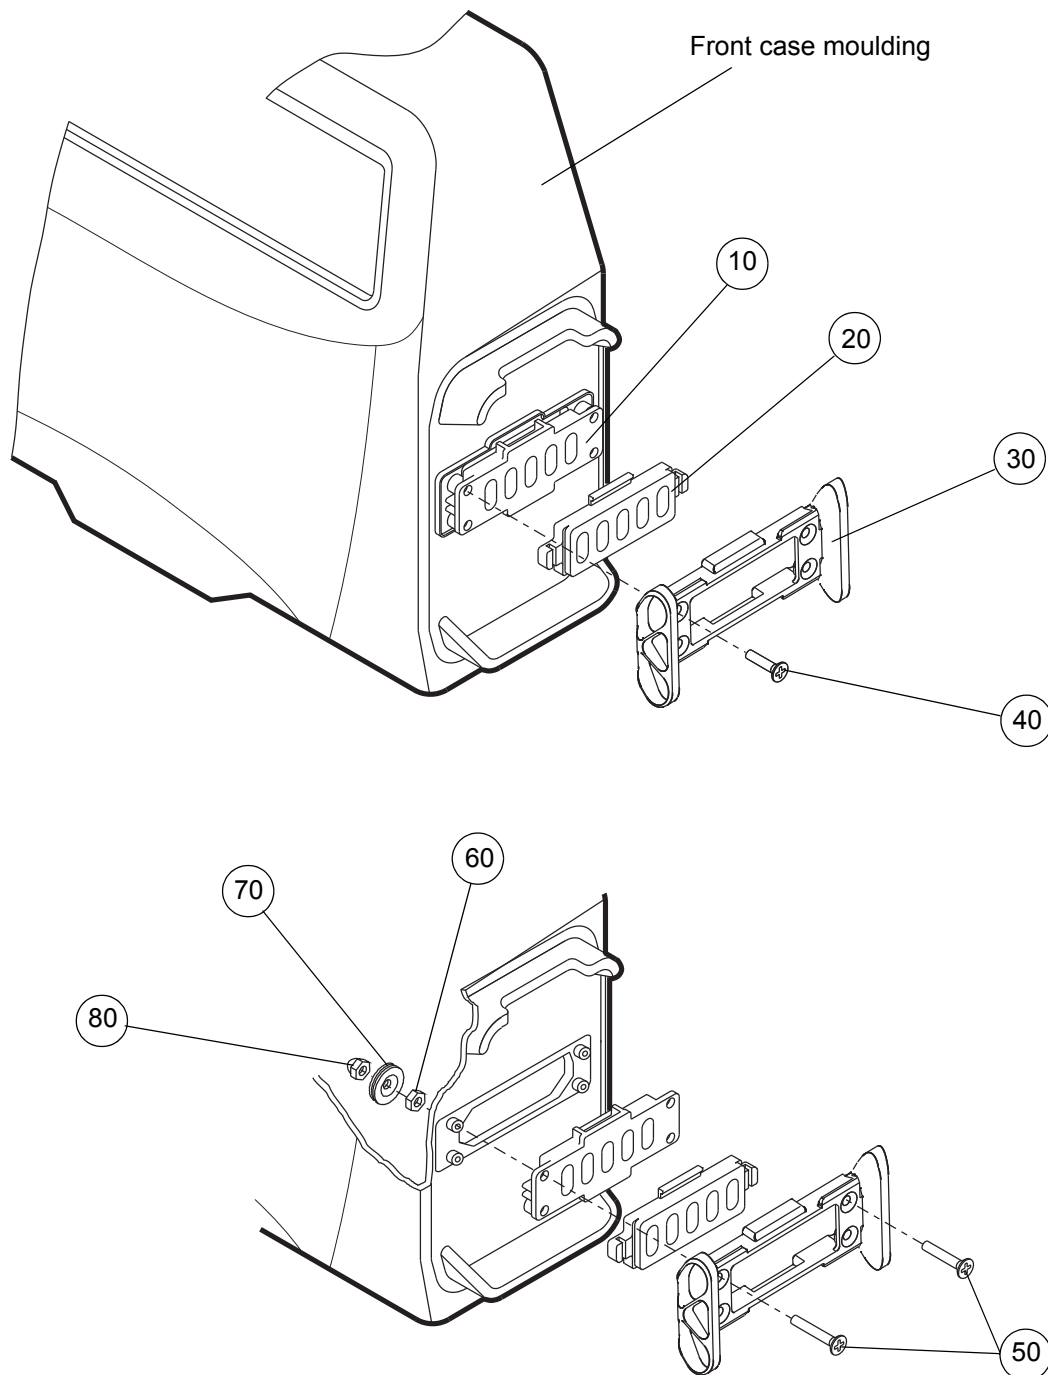

Figure 13 - Replacing the Manifold Gasket
- 17.1 Remove the manifold screws (Fig 13, Item 40).
- 17.2 Remove the manifold outer (Fig 13, Item 30) and the manifold gasket (Fig 13, Item 20). The manifold inner (Fig 13, Item 10) will remain connected to the tubes inside the pump.
- 17.3 Install the new manifold gasket (Fig 13, Item 20), the manifold outer (Fig 13, Item 30) and the screws (Fig 13, Item 40).
- 17.4.2 Remove the manifold screws, the manifold outer and the manifold gasket (Fig 13, Items 40, 30, 20).
- 17.4.3 Disconnect the four tubes from the manifold inner (Fig 13, Item 10).
- 17.4.6 Press the nuts (Fig 13, Item 60) into the vibration grommets (Fig 13, Item 70).
- 17.4.7 Assemble the manifold gasket (Fig 13, Item 20), the manifold outer (Fig 13, Item 30) to the case.
- 17.4.8 Install bolts (Fig 13, Item 50) into the four holes.
- 17.4.9 Install the vibration grommets and the nuts (Fig 13, Items 60 and 70) and the domed nuts (Fig 13, Item 80). Tighten the nuts to secure the manifold to the case.